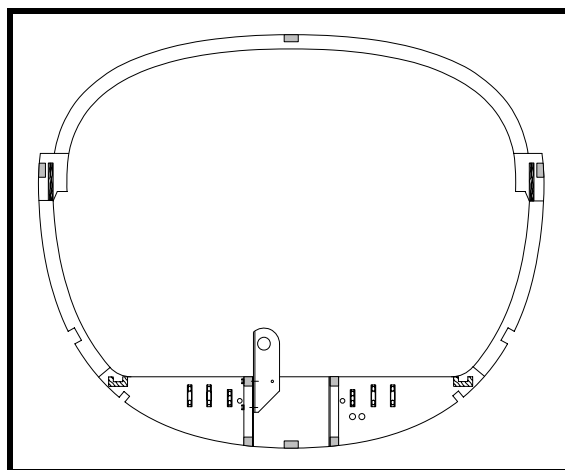

Figure 7
- ❑ Turn P/N 717-2 right side up, install the bolts and channel-nuts and drill the 3/16"Ø hole through fuselage frame No. 3 and the front wing spar. See Figure 7. Install the bolt. At this point you really don't want to do anything more than check the fit of P/N 717-2 and maybe draw it's outline so you can put the corner blocking in place correctly. P/N 717-2 will be removed, zinc chromated and assembled at a later stage.